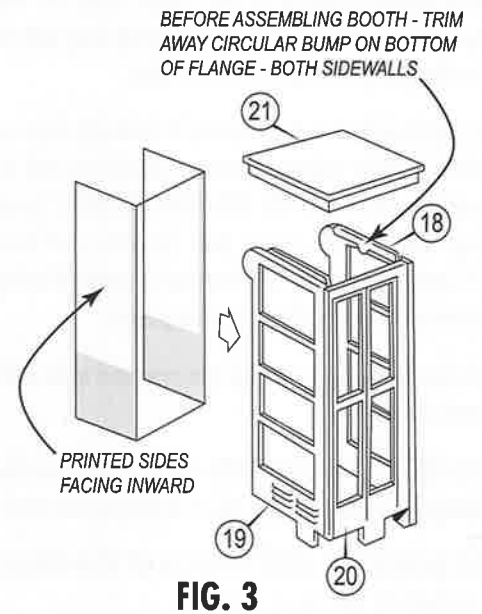

FIG. 3
16. Before assembling the **PHONE BOOTH**, trim away the small, circular bump on the lower side of the flange at the top of **PHONE BOOTH SIDES 18 & 19**. SEE **FIG. 3**.
17. Cement **PHONE BOOTH SIDES 18 & 19** to **FRONT 20**. The corners **MUST** overlap as shown in **FIG. 3**.